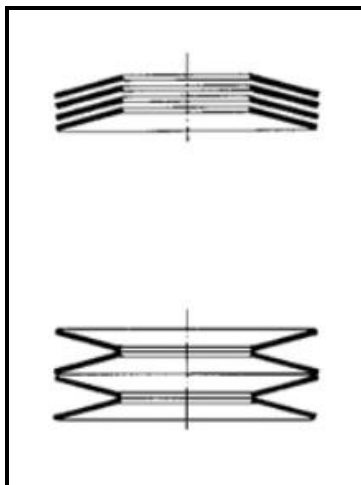

Fig. 11.2
Install the new seals in the brake saddle housing. Observe the correct position of each seal (Fig. 11.2). The seals should be installed by hand to avoid damaging the sealing edges. For easier installation, the seals can be bent into a kidney shape and set into the groove. Lubricate seals
prior to installation with a light coat of Molykote MoS₂. Press the piston (Pos. 7) straight (centred) into the cylinder bore with a press or drive it with a plastic hammer to the stop point. After installing the disc springs (lubricated with Molykote MoS₂) and the support discs, insert the spring receiver lubricated with a light coat of Molykote (Pos. 23) into the brake saddle housing (pos. 2) to dimension 246 as shown in Fig. 11.2. If the spring package is too heavy to get the dimension 246 you have to screw in the locking screw to lift up the piston and then you can easily turn the housing to the measure 246. Then pretense the disc springs with the assembly locking screw M18x1.5x60 (Pos. 21) and the washer A 18 (Pos. 22). To facilitate installation of the assembly locking screws, apply hydraulic pressure to the brake saddle and then install the assembly locking screw M18x1.5x60 (Pos. 21) and the washer A 18 (Pos. 22). The last step is to fit the O-ring (Pos. 26) into the housing again.